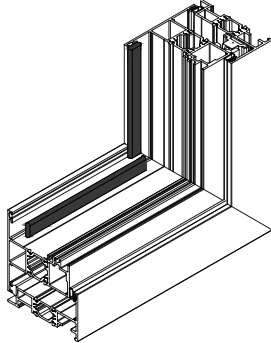

FIG. 1
- b. Clean the exterior glazing leg by using IPA 2 wipe method. Apply 1/8" PolySHIM tape ensuring it is not loose or wavy. Ensure that the corners of the tape do not overlap. See **FIG. 1**